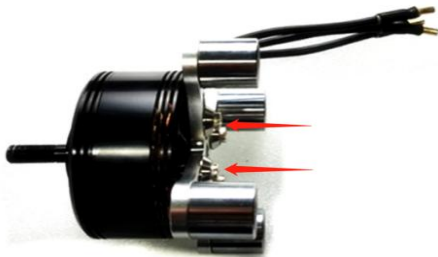
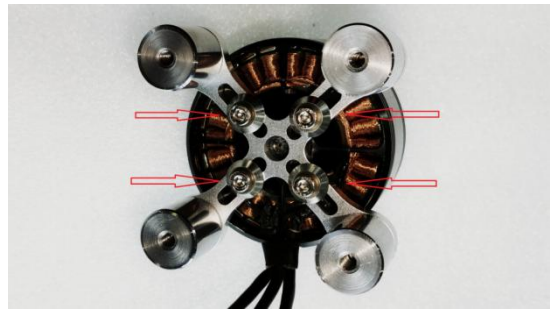

Fig.2.1.3
Fig.2.1.4
(2) Mount the motor with 4 screws and fish-eye washers, as shown in Fig. 2.1.3 and Fig. 2.1.4